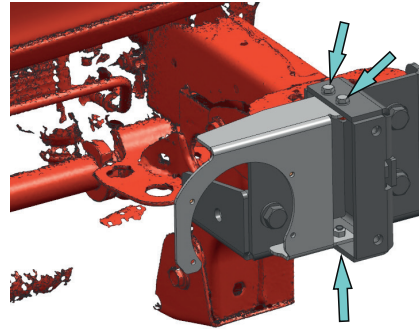

Fig. 19
15. Install Fog lights right bracket (OE plastic bumper Rubicon/Sahara) (item 6) and Fog lights left bracket (OE plastic bumper Rubicon/Sahara) (item 7) on brackets (item 2 and 3). Fix it using bolts M6x20 (item A), washer 6 mm (item H) (Fig. 19).